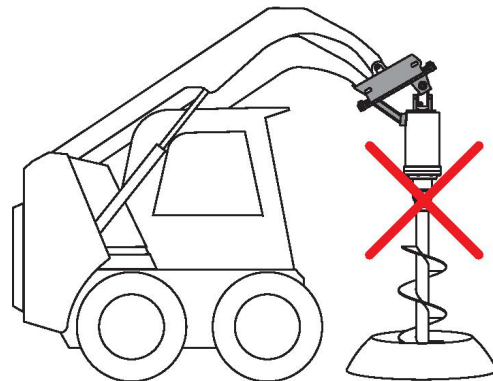

Figure 5
**DO NOT** drill with the cradle resting against the drive unit. This is known as sideloading and will damage the drive unit and auger. See Figure 5.